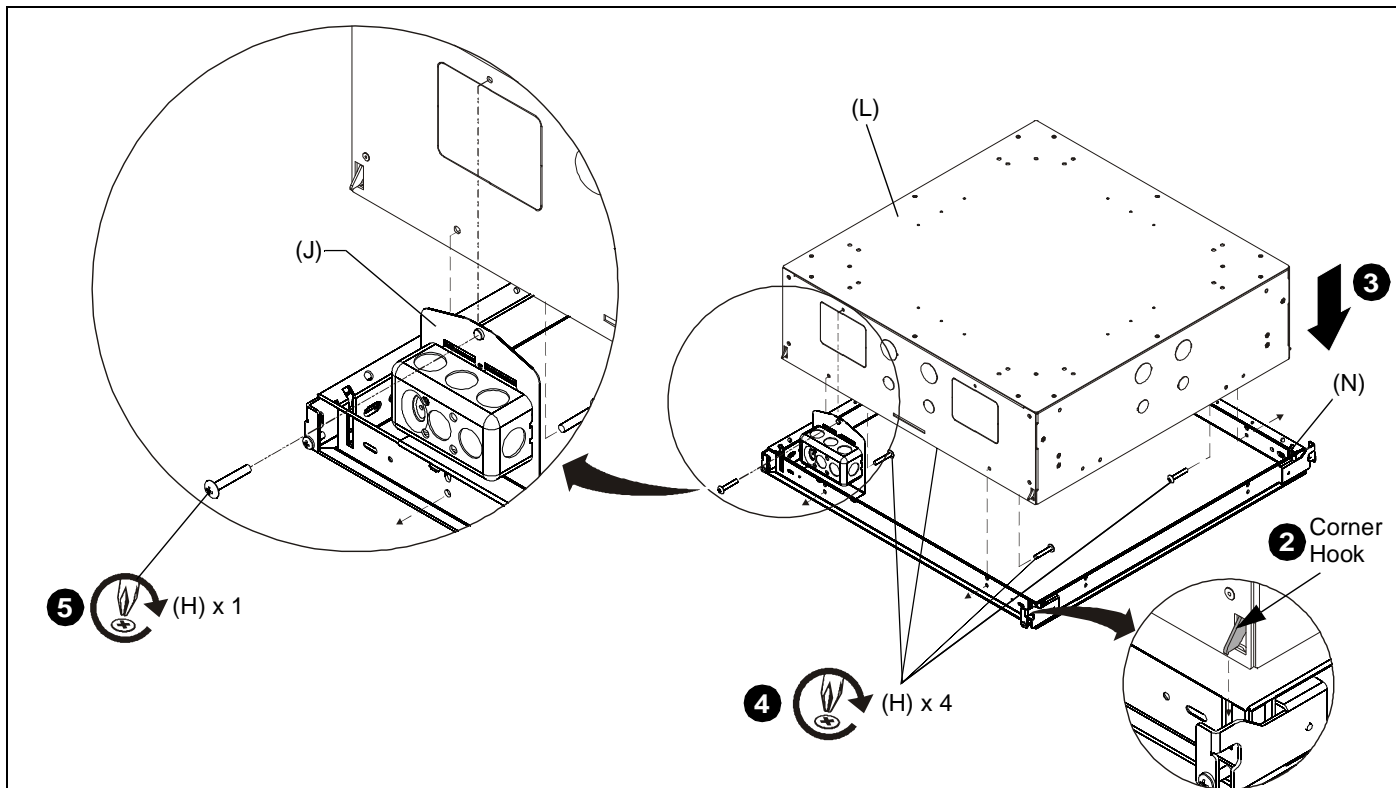

Figure 11
3. Lower onto CMS490 frame, carefully lining up outlet box attached to CMS490 frame with opening in CMS490. (See Figure 11)
4. Secure the CMS490 (L) to the CMS490 frame (N) using four 8-32 x 1" Phillips head screws (H), two in the front and two in the back of the CMS490. (See Figure 11)
5. Secure the outlet box attachment plate (J) to the CMS490 using one 8-32 x 1" Phillips head screw (H). (See Figure 11)
NOTE: Ensure that there are four audible clicks--each corner hook "clicking" into place onto the frame. (See Figure 11)